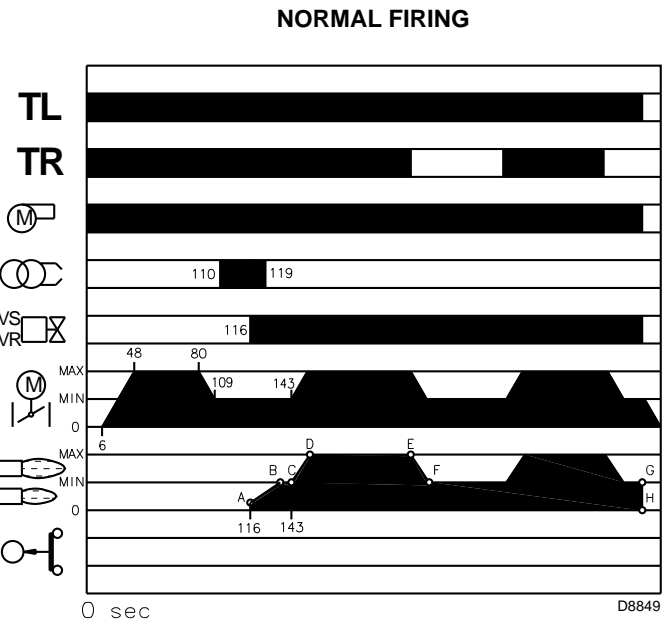

Fig. 43
The flame is ignited at a low output level point A (Fig. 43).
Delivery is then progressively increased, with the valve opening slowly up to MIN output, point B (Fig. 43).
- At the end of the starting cycle, the servomotor control then passes to the thermostat/pressure switch TR for boiler pressure or temperature point C (Fig. 43).